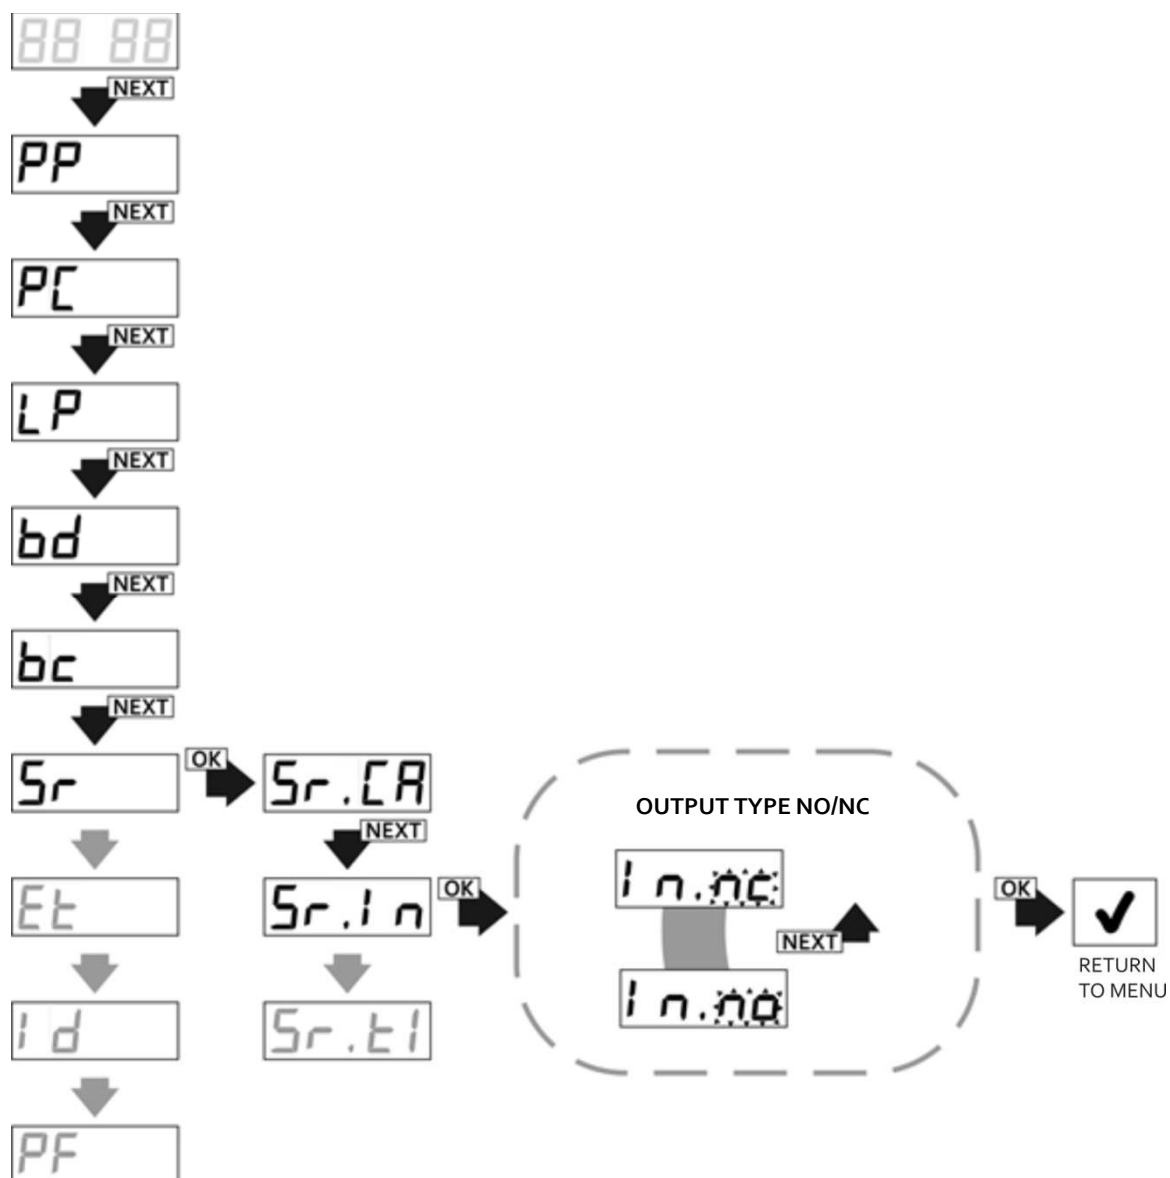

Fig. 24 Programming of manual control output type, Sr.In function.
- press the OK / ESC button, the display shows 'In.no' (fig. 24);